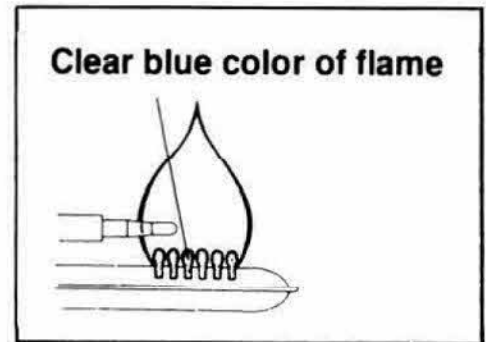

Figure 4
4. Reassemble in reverse order. Install the thermocouple so that the feeler reaches in over two slots of the burner (Figure 4).